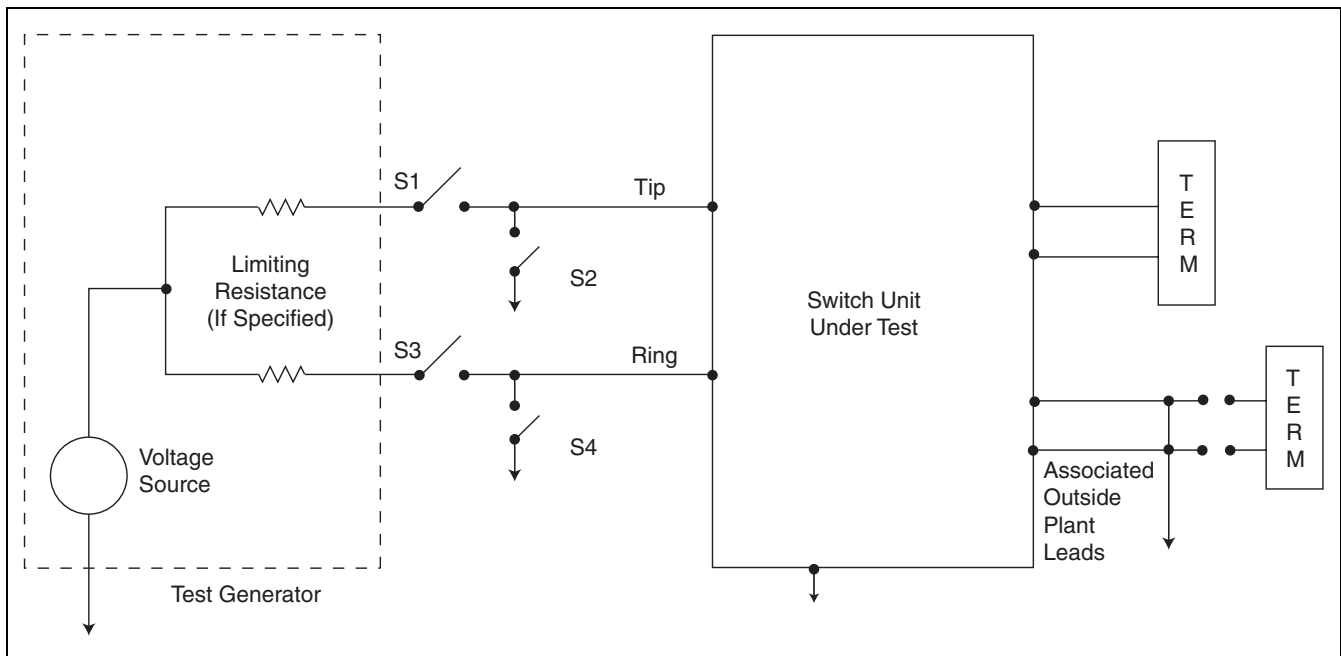

Figure 4.1 Connection Appearances
A minimum of three units are tested for each of the operating states in which the Equipment Under Test (EUT) may be expected to function — idle, transmit, receive, on-hook, off-hook, talking, dialing, ringing, and testing. Table 4.1 and Table 4.2 show test connections, and Figure 4.1 shows the connection appearances.
| Test (Notes 1 & 2) | Surge Voltage (V _{PK}) | Waveform (μs) | Surge Current per Conductor (A) | Repetitions Each Polarity | Test Connections (Table 4.1, Figure 4.1) |
| Test | Surge Voltage (V _{PK}) | Wave-form (μs) | Surge Current per Conductor (A) | Repetitions Each Polarity | Test Connections (Table 4.1, Figure 4.1) |
| Test | Surge Voltage (V _{PK}) | Waveform (μs) | Surge Current (A) | Repetitions Each Polarity | Test Connections (Table 4.1, Figure 4.1) |
| Test | Applied Voltage, 60 Hz (V _{RMS}) | Short Circuit Current per Conductor (A) | Duration | Primary Protectors | Test Connections (Table 4.1, Figure 4.1) |
Table 4.7 presents test conditions for non-customer premises equipment. (Note that test conditions 1, 3, and 4 may be omitted if the EUT has previously met UL 60950.) See Figure 4.1 for test connection appearances.
| Test (Notes 1, 2) | Applied Voltage, 60 Hz (V _{RMS}) | Short Circuit Current per Conductor (A) (Note 5) | Duration | Test Connections (Table 4.1, Figure 4.1) |